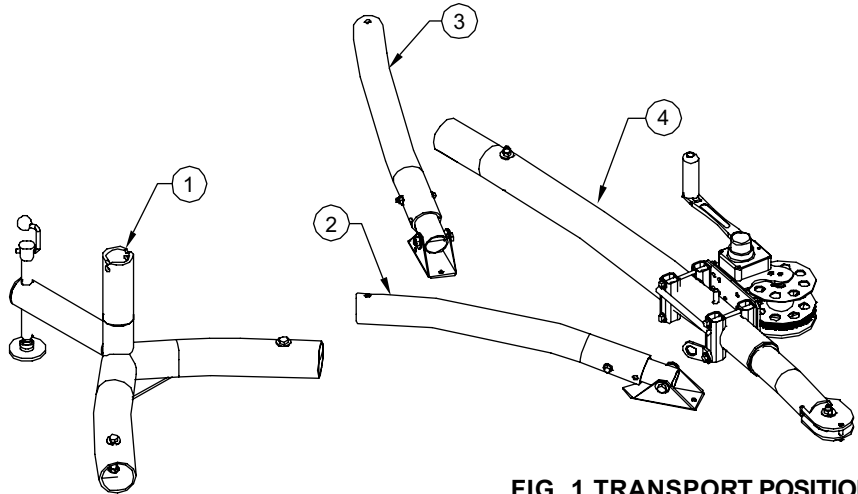

FIG. 1 TRANSPORT POSITION
1. Remove all parts from shipping, storage or transport containers as applicable and layout on ground as shown in Fig. 1